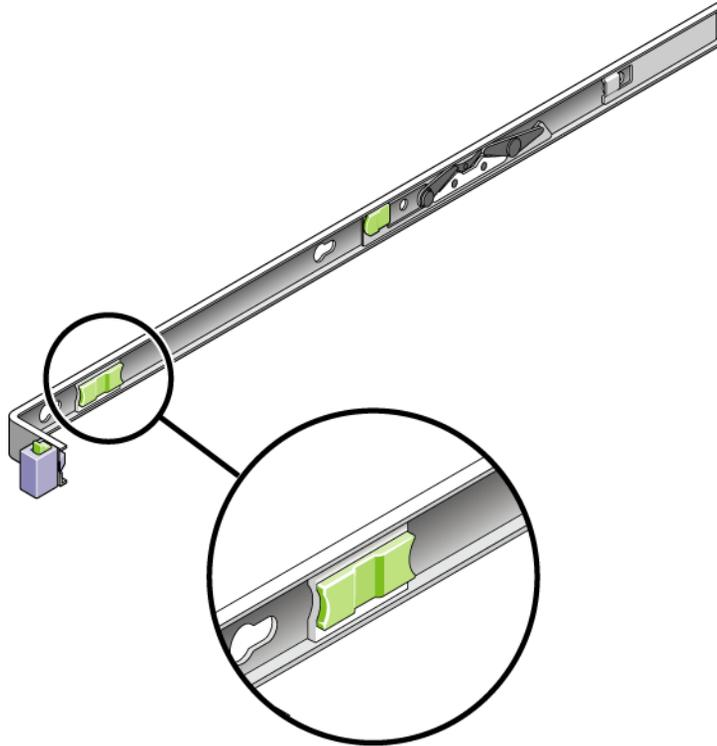

FIGURE 2-25 Locating the Slide Rail Release Button
6. Simultaneously unlock both slide rail release buttons (FIGURE 2-25), and push the appliance completely into the rack.